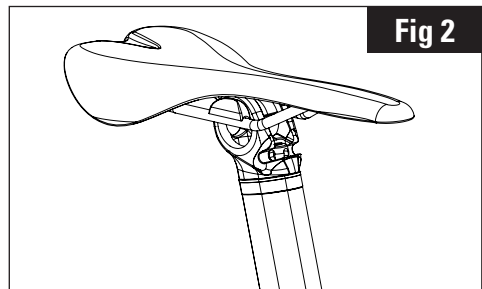

Fig 2
2. Insert the upper support (10) indicated in Fig 5.1 if you want to use a seatpost with round rails $\varnothing 7$ mm and the support (10b) indicated in Fig 5.2 for a saddle with oval rails. (Fig.2)